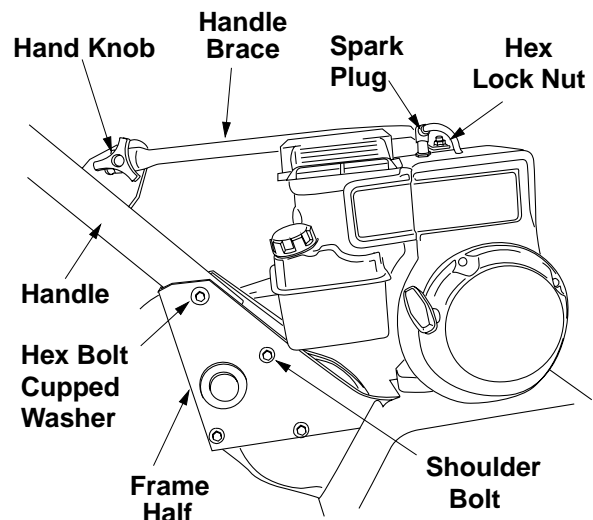

Figure 5
1. Remove the hex bolt and cupped washer from the top right side of the frame halves. Hold the cable guide bracket on the left side of the frame as it will fall when the bolt is removed. (See Figure 5.)